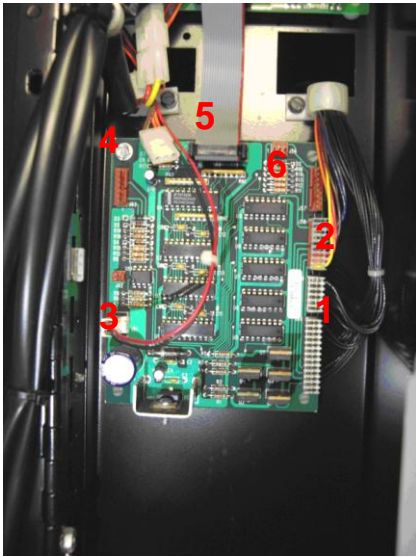

Figure 4
7. Remove the (1) J59 & J60 Motor, (2) J58 Gum & Mint and (3) J61 Power harness connections from the Interface PCB. See Figure 4.
8. Remove the Interface PCB by removing the (4) screw in the upper left-hand corner of the board then lift the (5) Interface harness and (6) PCB up and forward out of the machine. DO NOT DISCARD THE SCREW. See figure 4, Index 4, 5 & 6.